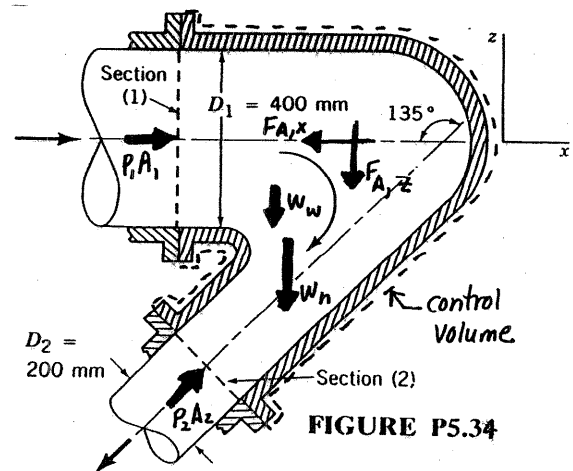

FIGURE P5.34
5.34 A converging elbow (see Fig. P5.34) turns water through an angle of 135° in a vertical plane. The flow cross section diameter is 400 mm at the elbow inlet, section (1), and 200 mm at the elbow outlet, section (2). The elbow flow passage volume is 0.2 m^3 between sections (1) and (2). The water volume flowrate is $0.4 \text{ m}^3/\text{s}$ and the elbow inlet and outlet pressures are 150 kPa and 90 kPa. The elbow mass is 12 kg. Calculate the horizontal (x direction) and vertical (z direction) anchoring forces required to hold the elbow in place.